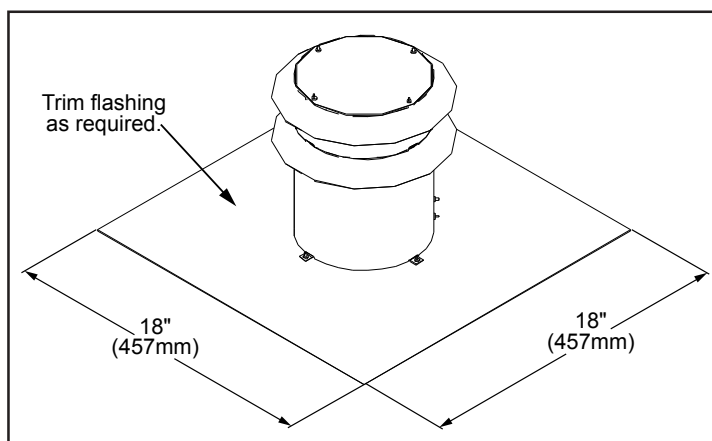

Figure 20: Generic Vent Cap Dimensions.
4. Most vent caps can be installed onto chimneys with flue openings up to 16" (406mm) x 16" (406mm) and the actual flashing is 18"x18" (refer to Figure 20). If the chimney is smaller the cap should be trimmed down and folded over.
5. Apply a bead of stove cement sealant to the top section of the Ø3" (76mm) exhaust vent collar plate. Slide the Ø3" (76mm) flex vent over the flue collar and secure with three (3) sheet metal screws evenly spaced.